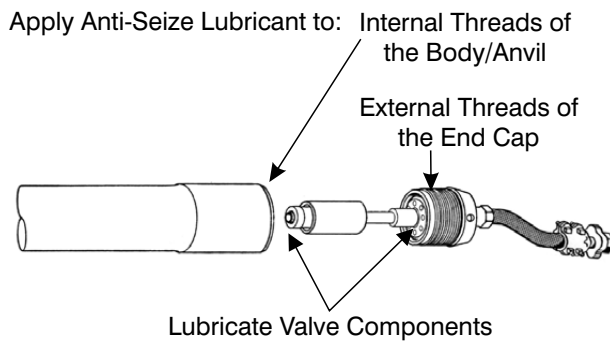

Figure 9-35. Prepare Body/Anvil and Tail Assembly.
6. Apply anti-seize thread lubricant sparingly to the threads of the End Cap (10) and the Body/Anvil (1). See Figure 9-35.